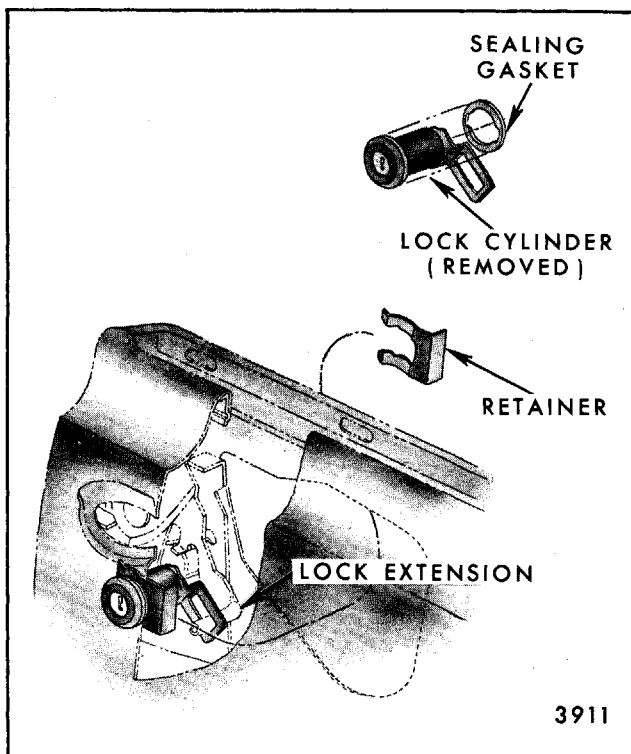

Fig. 5-48-Door Lock Cylinder Removal
2. With a screwdriver or other comparable tool, slide lock cylinder retaining clip (on inboard side of door outer panel) forward till out of engagement. Remove lock cylinder from door (Fig. 5-48).